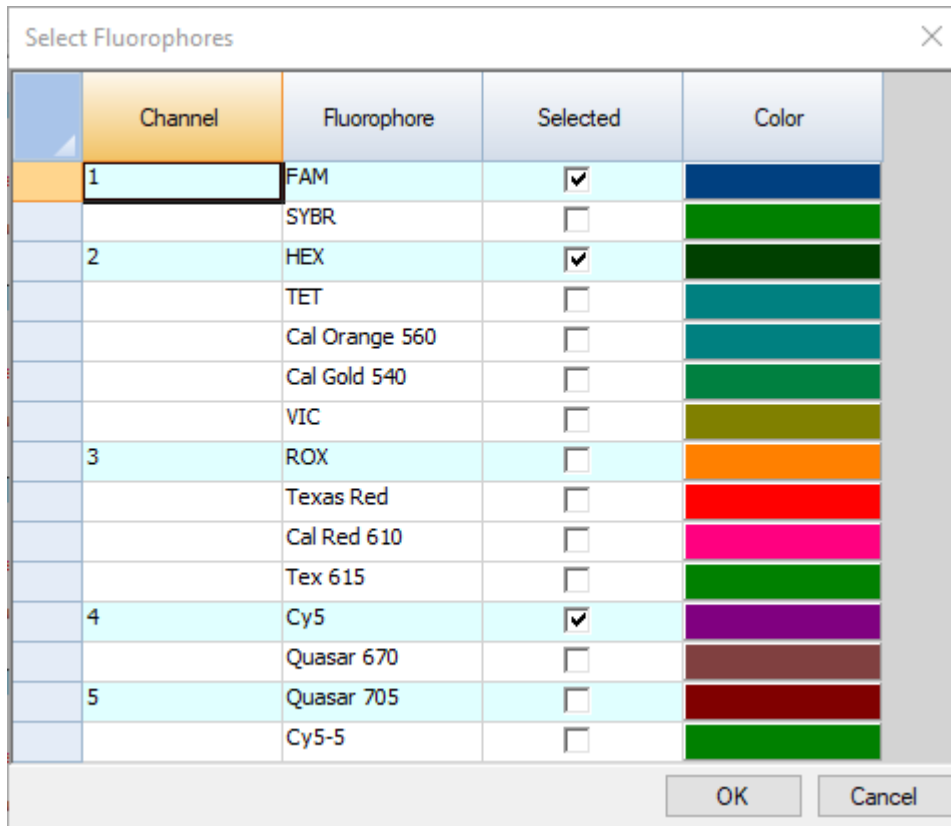

Figure 14 Fluorophores selections on the CFX Maestro Select Fluorophores dialog box
- 18 In the dialog box, mark the check boxes for fluorophores **FAM**, **HEX**, and **Cy5**. Clear the check boxes for all other fluorophores. Refer to **Figure 14**.